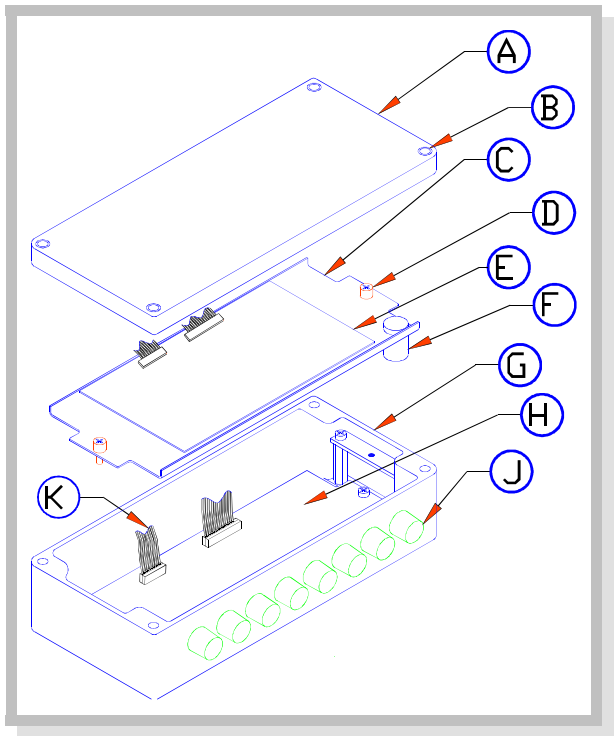

FIGURE 4.1 COMPUTER UNIT COMPONENTS
The **Computer Unit** contains two major assemblies: the **Computer Board (E)**, and the **Termination Board (H)**, shown in Figure 4.1. These boards are in an aluminum box (G), usually located on the rear wall of the cab. On some crane models, they are outside of the cab. The **Computer Board**, containing the microprocessor and its related components, is held in place by screws (D), located on each end of the Computer Board Mounting Plate (C). The **Computer Board** is connected to the **Termination Board** via two ribbon cables (K) that carry signals to and from the Termination Board. All of the cables from the various sensors and the Display Console connect to the Termination Board via the connectors (J) in the wall of the box. The key switch (F) controls three wires that connect the Computer Board to the Termination Board.
1. Refer to Figure 4.1. To access the Computer Board, remove the four screws (B) that secure the cover (A) to the Computer Box. Carefully remove the lid from the Computer Box. Set the lid and the four screws aside.
2. To access the Termination Board (H), remove the screws (D) located at each end of the Computer Board Mounting Plate. Swing the plate up and out of the way.